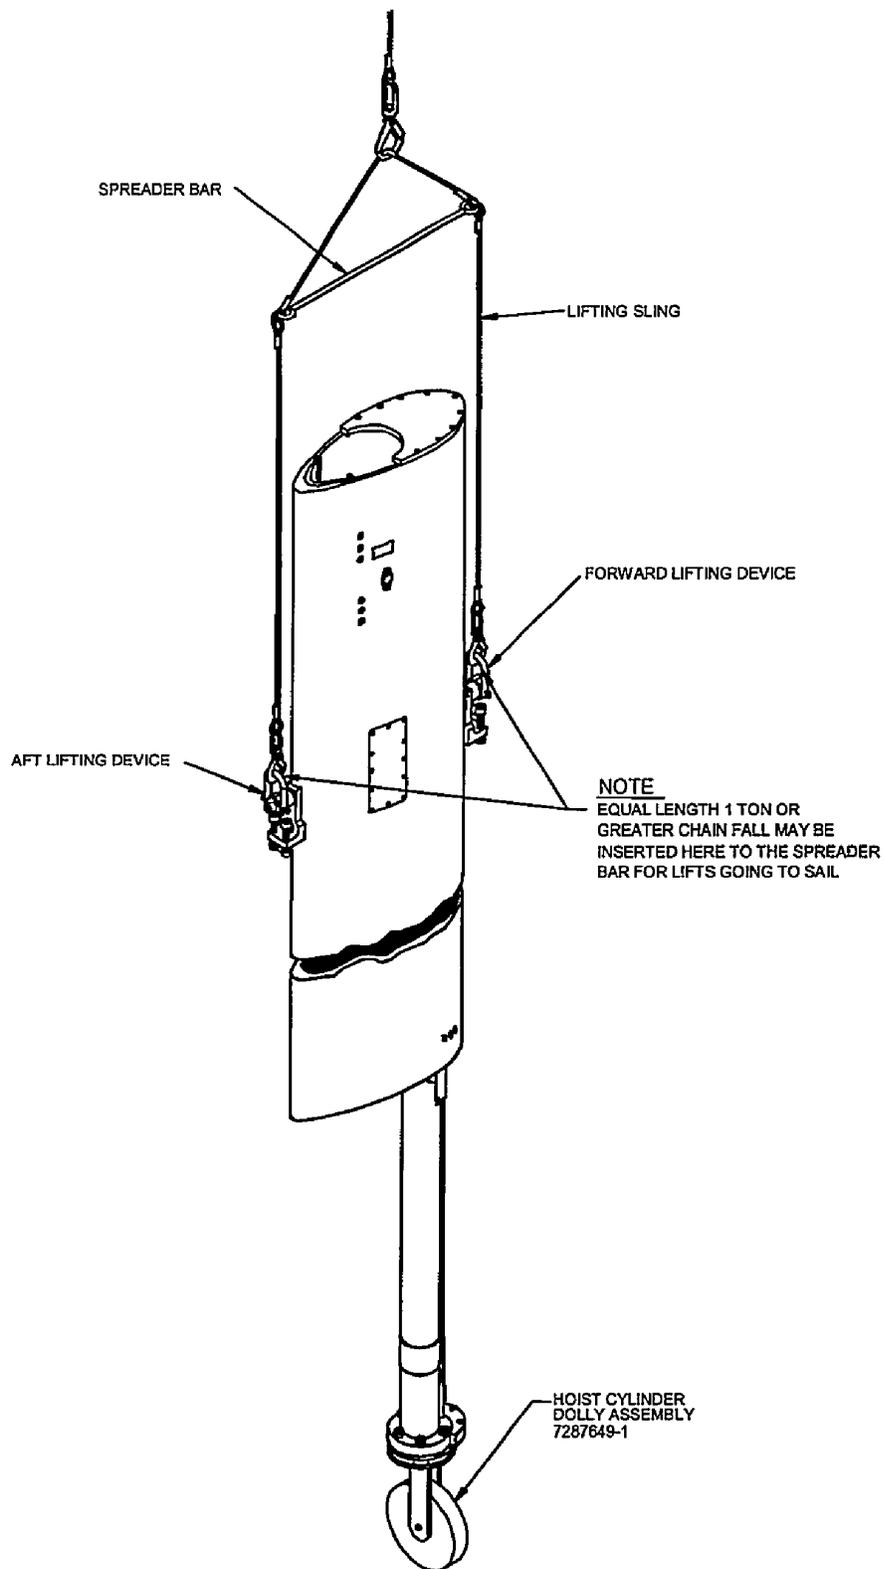

Figure 5-6 One Hook HDR and ACM Faired Mast Lifting Arrangement Vertical Position
- f. Use the crane to rotate the faired mast assembly to the vertical position on the dolly assembly. See Figure 5-6.